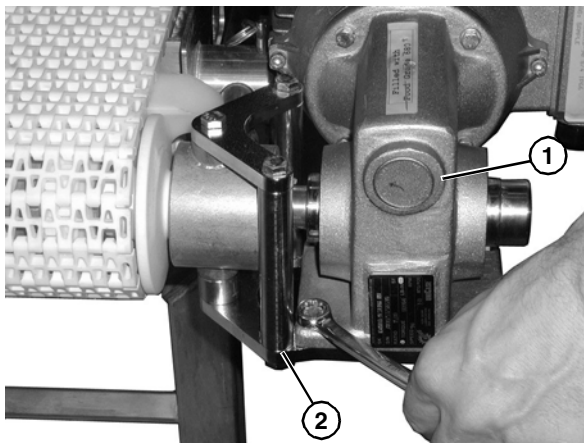

Figure 56
5. Remove the bolts that connect the gearmotor (Figure 56, item 1) to the gearhead mounting posts (Figure 56, item 2).